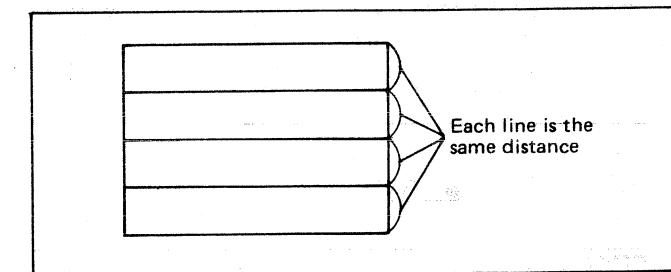

Fig. 21
3. Adjust the R453 (Vertical Linearity Control) to each line is the same distance as shown in Fig. 21.